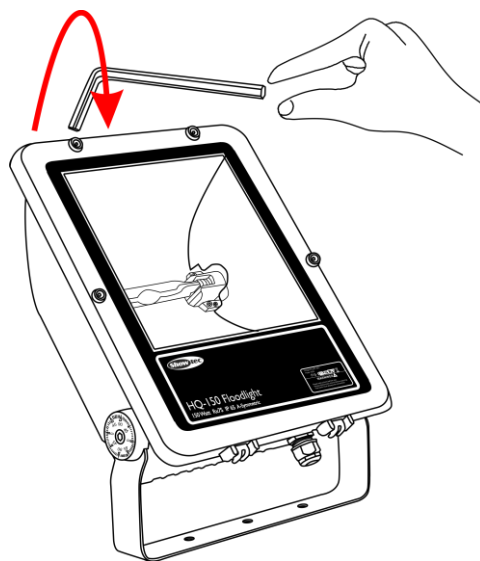

Fig. 06
- 07) Fasten the screws with the included hex key clockwise (Fig. 06).